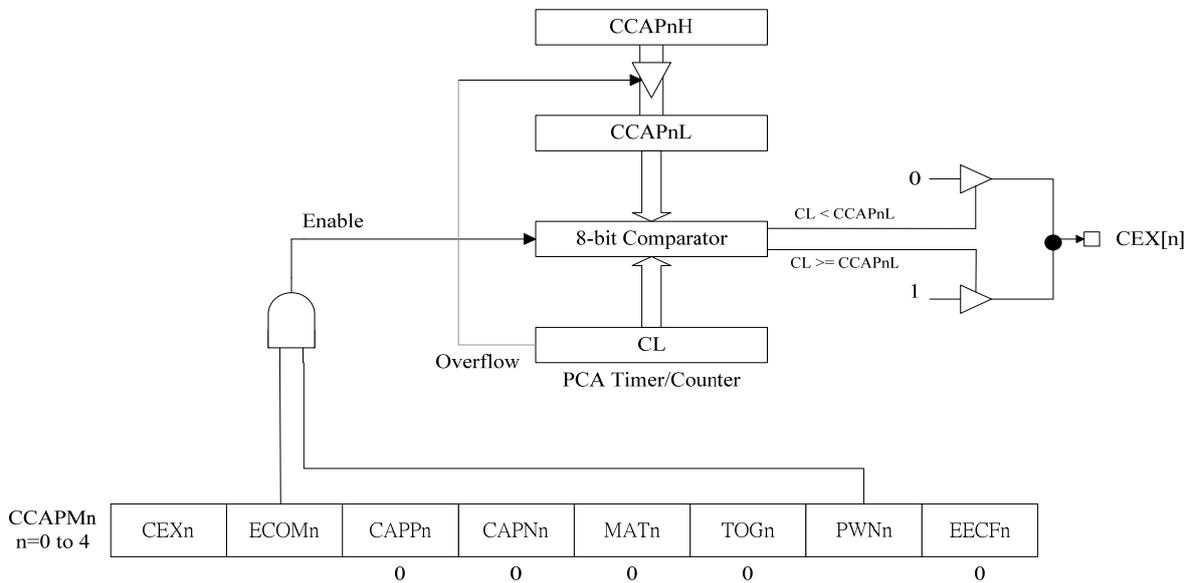

Figure 131: PCA Pulse Width Modulator Mode
The Pulse Width Modulator (PWM) mode is used to generate a continuous square-wave with an arbitrary duty cycle. As shown in Figure 131 below, it generates 8-bit PWM by comparing the low byte of the PCA timer (CL) with the low byte of the compare register (CCAPnL). When $CL < CCAPnL$ the output of CEX[n] is low. When $CL \geq CCAPnL$ the output CEX[n] is high. To activate this mode, the user must set the PWM and ECOM bits in the module's CCAPMn register.